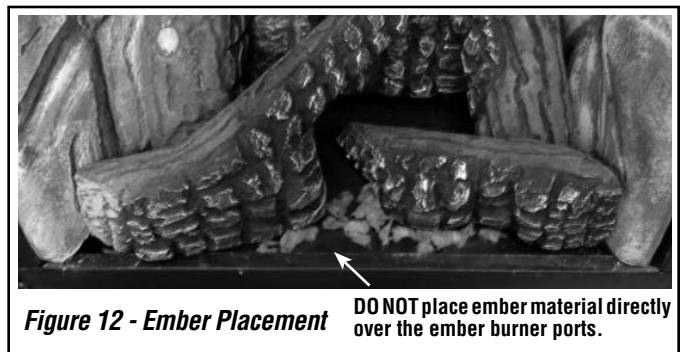

Figure 12 - Ember Placement DO NOT place ember material directly over the ember burner ports.
6. **Ember Placement** - Separate the Embers (rockwool) into pieces about the size of a quarter (see **Figure 6**). Keep the pieces fluffed up, not matted. Distribute these pieces over the surface of the burner, as shown in **Figure 12**. Do not use more than is necessary. **Ensure that the main burner ports remain uncovered by the ember material.**